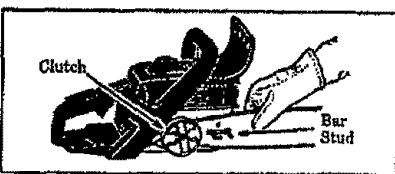
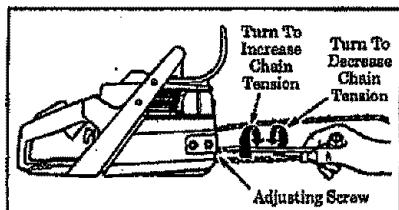

Figure 8
Figure 10
3. Turn the Adjusting Screw (Figure 10) counterclockwise to move the Adjusting Pin (Figure 8) almost as far as it will go to the rear.
4. Mount the Guide Bar with the slotted end over the bar stud. Figure 8.
1. Lift up the tip of the Guide Bar and turn the Adjusting Screw clockwise until the chain does not sag beneath the Guide Bar. Figure 10.